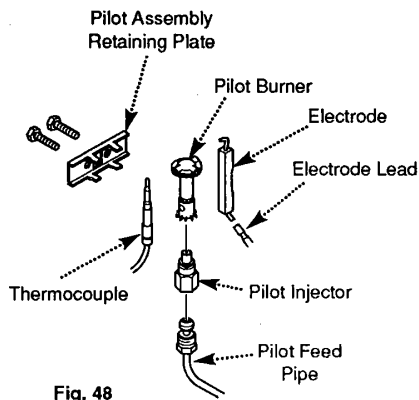

Fig. 48
10.5 Electrode (Fig. 48)
10.6 Thermocouple (Figs. 48 & 49)
10.7 Pilot Burner and Injector (Fig. 48)